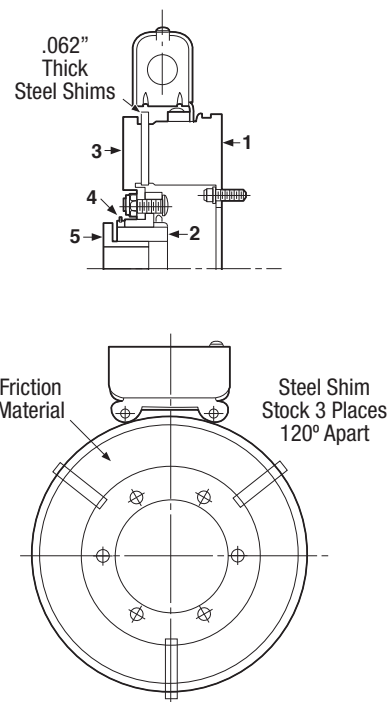

Figure 3
⚠CAUTION During steps 4 through 7, handle the armature/hub assembly by the hub (Figure 3, item 2) only, making sure the armature (Figure 3, item 3) is as close to the retainer ring (Figure 3, item 4) as possible. Any movement of the armature on the splined hub will reduce available armature travel and may cause improper setting of the running air gap.
Step 4: Place three steel shims 120 degrees apart on the magnet as shown in Figure 3. Insert the taper-lock bushing (Figure 3, item 5) into the hub (Figure 3, item 2). Slip the armature hub assembly onto the brake shaft until armature makes contact with shims.
Step 7: Apply power to the brake and remove shims. Note: It may be required at this point to adjust voltage to brake, to release the armature and remove shims. Set the airgap by pressing the armature into contact with the magnet and then releasing. (See Figure 3) The armature should spring back approximately 1/32-3/64 (.031-.045) inch. If the airgap is outside of that range, reposition the armature hub assembly by procedure Section III and steps 4 and 5 of the assembly procedure Section I.
Disassembling the Armature/Hub Assembly (Figure 3)
Note: Make sure power to the brake is turned off. See Figure 3 for the following two steps.
Step 1: Loosen the taper-lock bushing (item 5) on the brake shaft.
To loosen, remove both hex screws from the taper lock bushing (item 5, figure 3) using a hex wrench. Insert the hex screws into the previously vacant taped holes in the taper lock bushing and tighten these screws until the bushing is loosened in the hub (item 2). If the bushing does not loosen, tap on the bushing with a drift and small hammer.
Step 2: Apply power to the brake. The armature will then spring away from the magnet. If it does not, check electrical connections and release voltage. Remove taper lock bushing (item 5) and armature assembly (items 2 & 3) from the brake shaft. Set the bushing aside. Do not discard the bushing.